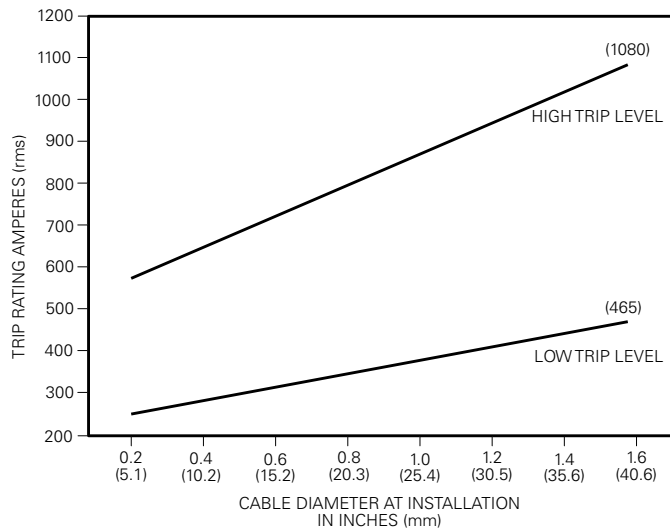

Figure 4. S.T.A.R. MR faulted circuit indicator cable diameter vs. trip value curves.
S.T.A.R. FCIs are available with either a high or a low trip rating. The very same FCI can be used on cable sizes from 0.25 inches (6.4 mm) to 2.0 inches (51 mm). Therefore, it is not necessary to specify a cable diameter when placing an order. Refer to Figure 4 for applicable trip value versus cable diameter information.
| Trip Response Speed        | Response Curve, Figure 4   |